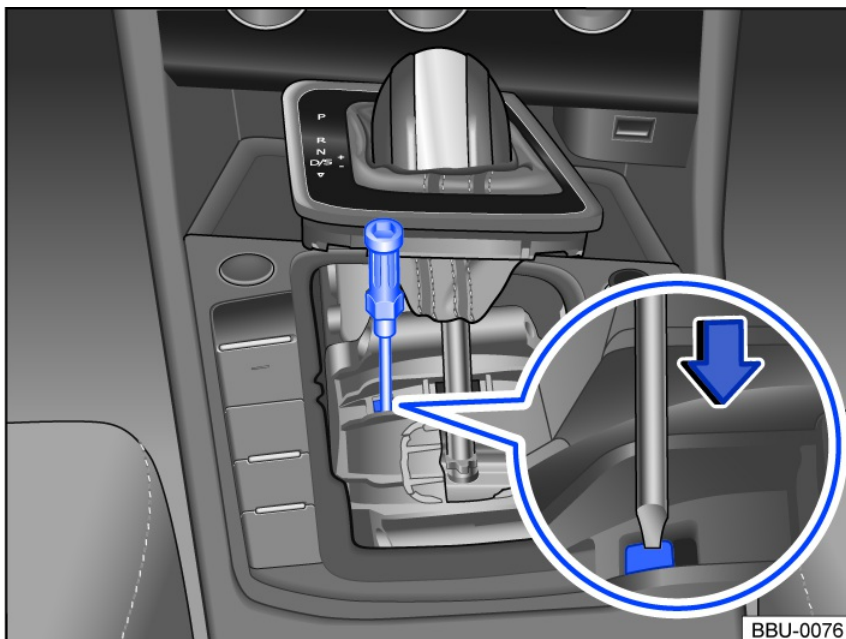

Fig. 105 Manually release the selector lever lock.
- Push the release lever in the direction of the arrow fig. 105 and hold it in this position.